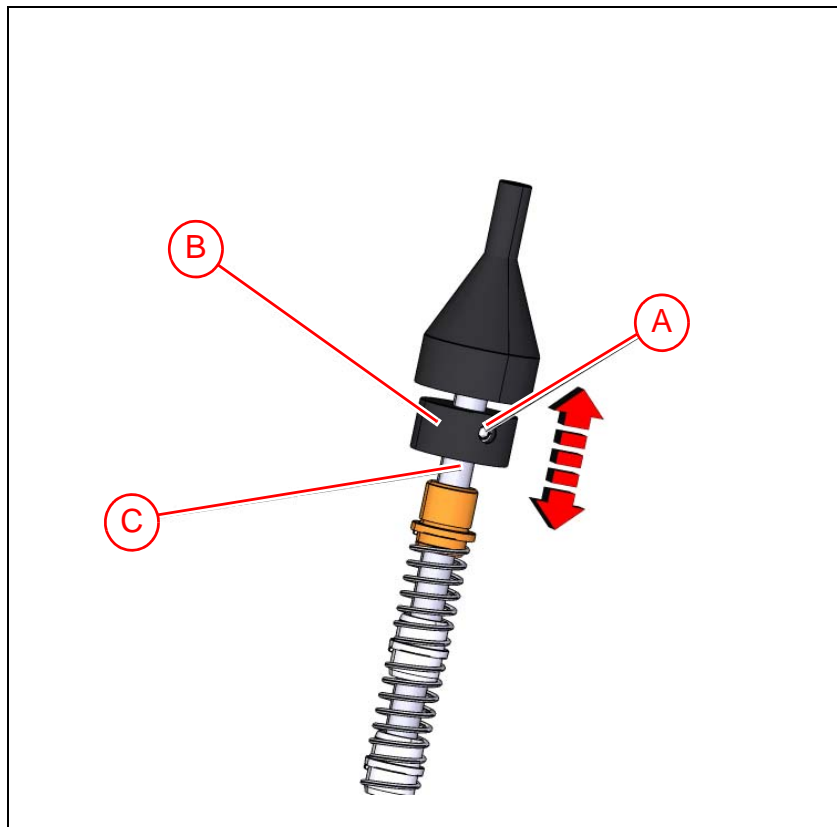

Figure 6-18. Adjusting Z indicator.
Below the swivel ('1' in Figure 6-18) there is a cylinder acting as the z-indicator leveller. If the Z indicators need to be adjusted, the cylinder can be adjusted as follows.
- Loosen and replace the M2 screw ('A' in Figure 6-18) on the cylinder ('B').